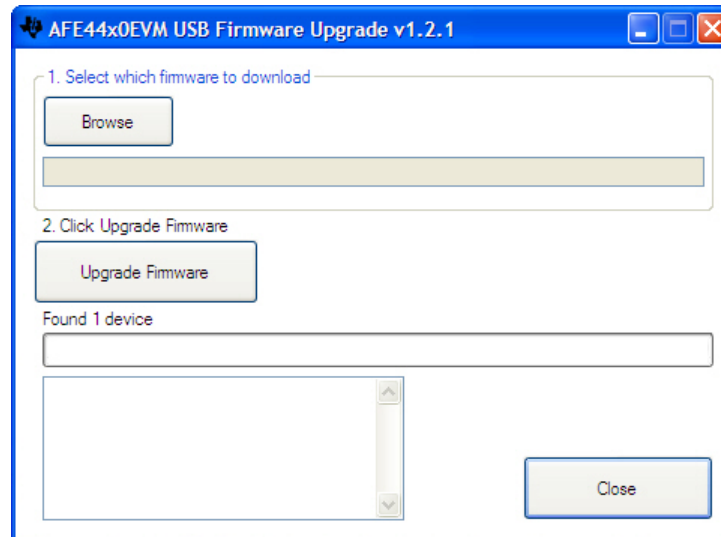

Figure 38. PC Application Firmware Upgrade – 3
- Visually inspect the EVM and find out the device installed on the EVM. The EVM supports two devices AFE4400 and AFE4490. Browse and select the appropriate firmware binary file (example: AFE4490_EVM_FW_V1.3.txt file) and click *Upgrade Firmware* as shown in Figure 38. The default firmware is available from: